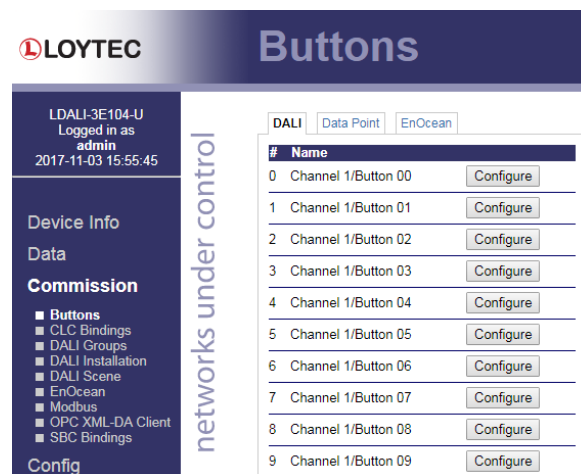

Figure 89: Button Functions.
1. On the **Buttons** page, stay on the **DALI** tab (see Figure 89) and click on the **Configure** button next to the button device that is to be configured. The dialog shown in Figure 90 appears.